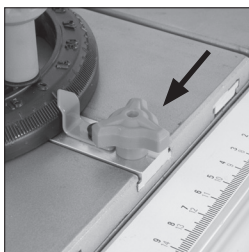

Fig. 23
- The Mitre Gauge can be locked onto the Sliding Carriage by screwing the locking screw into a hole located to the front edge of the Sliding Carriage (**Fig 23**).